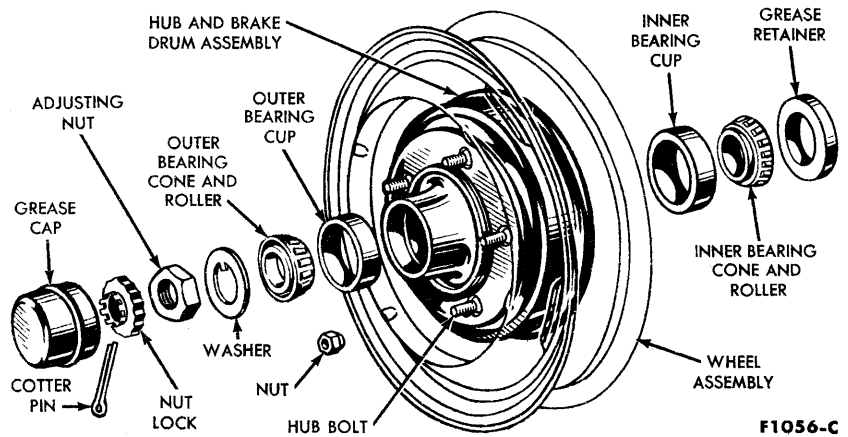

FIG. 1—Front Hub, Bearings & Grease Retainer
cotter pin (Fig. 1). The front wheel assemblies rotate freely on their respective spindles and are driven by the motion of the car.
2. Pry off the wheel cover and remove the grease cap (Fig. 1) from the hub.
the spindle. Remove the outer bearing cone and roller assembly (Fig. 1).